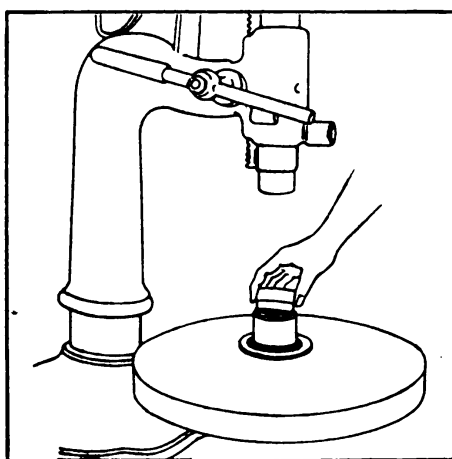

Figure 406
Place sleeve (116) on table of drill or arbor press. Insert the coned pilot tool shown above in sleeve, to act as a guide in assembling sleeve in the adjusting plate. Figure 406.